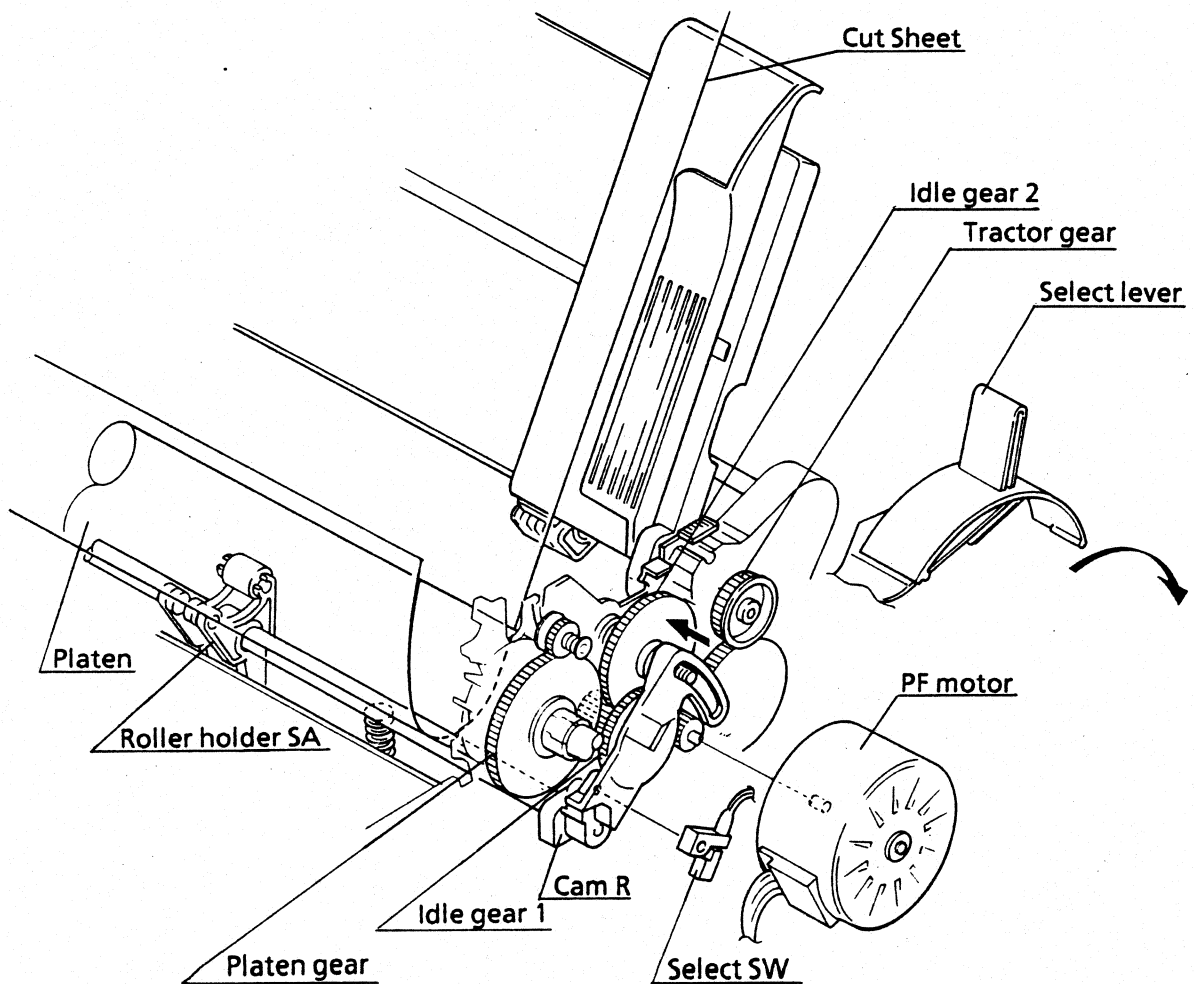

Fig. 5
(1) Friction feed mechanism (See Fig. 5)